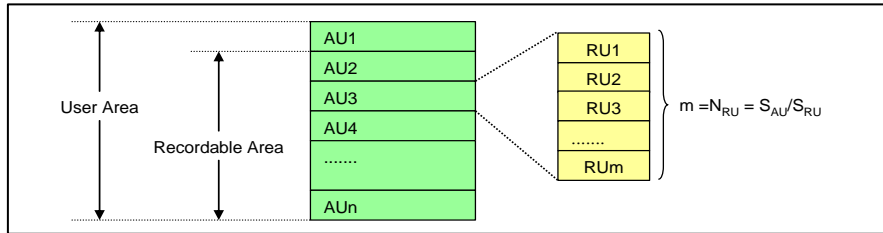

Figure 4-47 : Definition of Allocation Unit (AU)
4.13.1.1 Allocation Unit (AU)
The User Area is divided into units called "Allocation Unit (AU)" (Refer to Figure 4-47). AU is physical boundary in User Area of a card and is not defined by the file system boundary. Each card has its own fixed **AU Size (S_{AU})** and the maximum AU Size is defined depending on the card's capacity. The host
4.13.1.2 Recording Unit (RU)
Each AU is divided into units called "**Recording Unit (RU)**" (Refer to Figure 4-47). The unit of **RU Size (S_{RU})** is 16KByte. The RU Size is a multiple of 16KByte and shall not span across an AU boundary. Larger RU size may improve performance. The condition and requirement of the minimum RU Size is defined by Section 4.13.1.8.1. **The number of RUs in an AU (N_{RU})** is calculated from S_{AU}/S_{RU} .